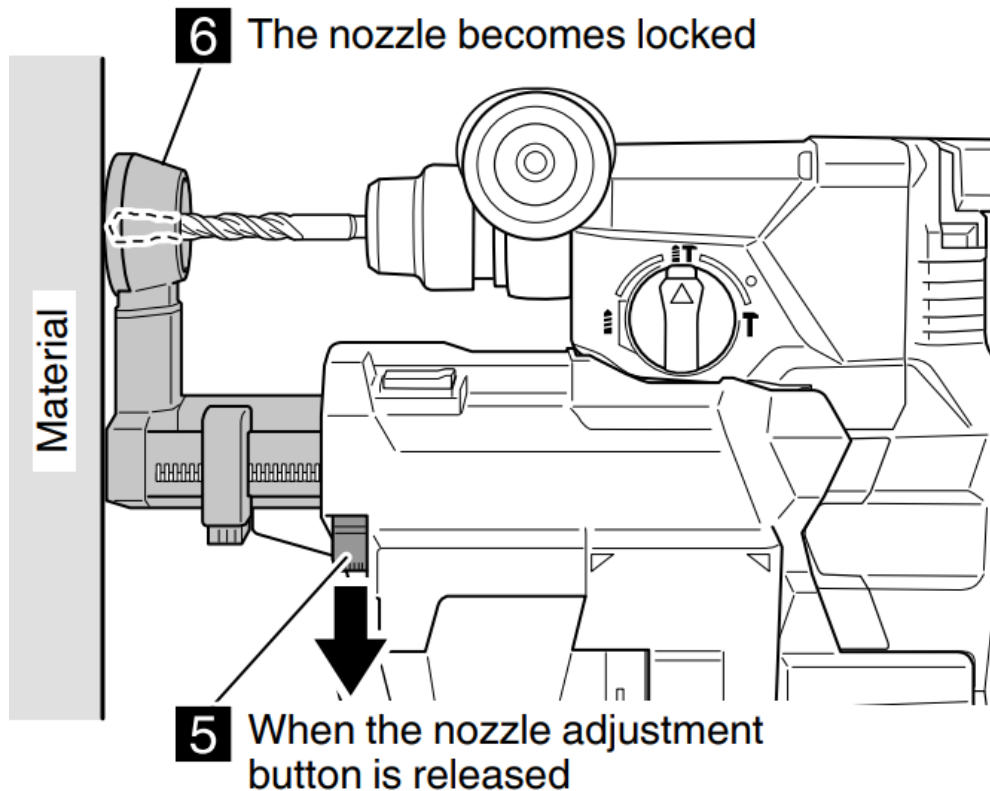

Fig. 7
4. Release the nozzle adjustment button to lock the position of the nozzle. (Fig. 7)